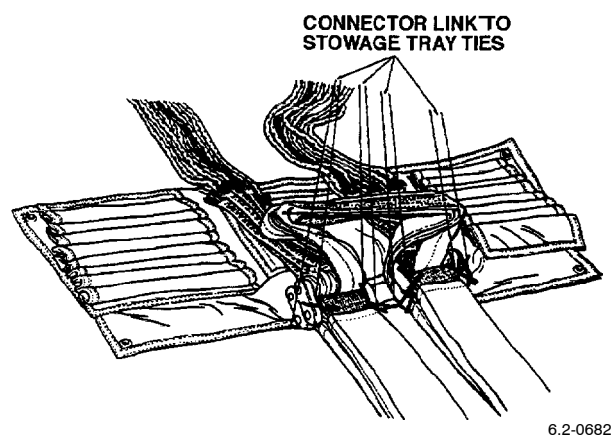

Figure 33. Stowage Tray Positioned, Securing Stowage Tray Ties
d. Tie off the suspension line connector links to the stowage tray using a single turn of waxed size FF thread thru each stowage tray eyelet and around the lower section of each pair of connector links; tie off (Figure 33). (QA)